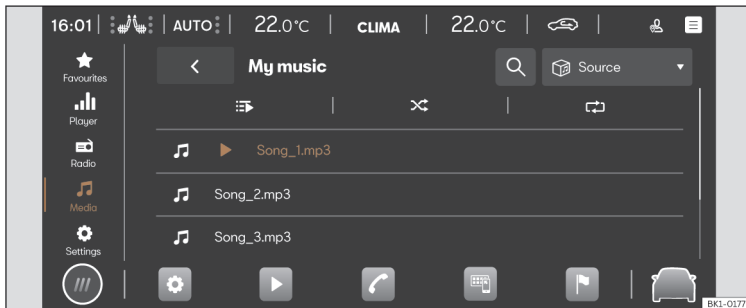

Fig. 148 Schematic diagram: Media view
- Press **HOME** > ► > 🎵 >>> **Fig. 148**.